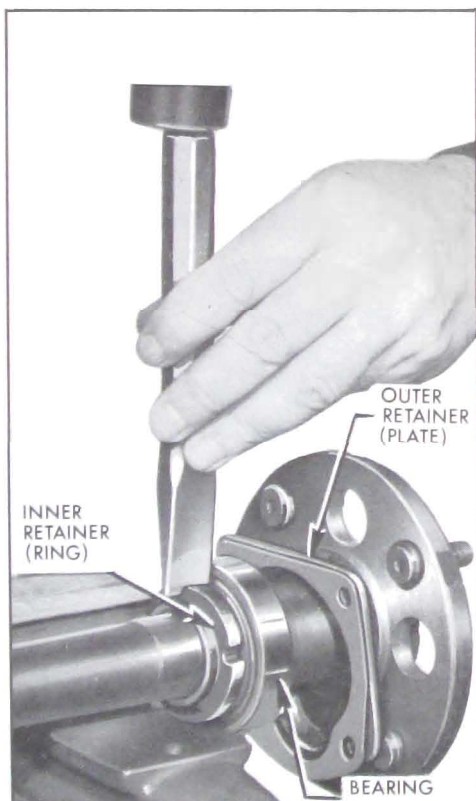

Fig. 6-6—Removing Axle Shaft Bearing Retainer
1. Nick bearing retainer in 3 or 4 places with a chisel deep enough to spread ring. Retainer will then slip off. See Figure 6-6.